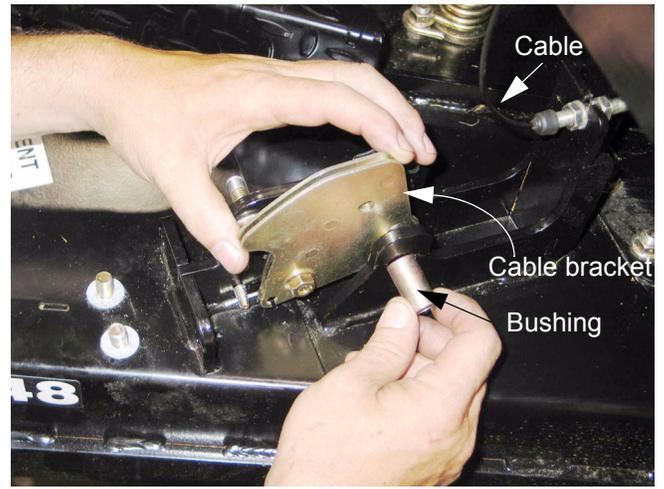

Figure 11.6
11.6. The cable bracket can then be removed using two 9/16" wrenches. Unbolt it and remove the bushing. See Figure 11.6.